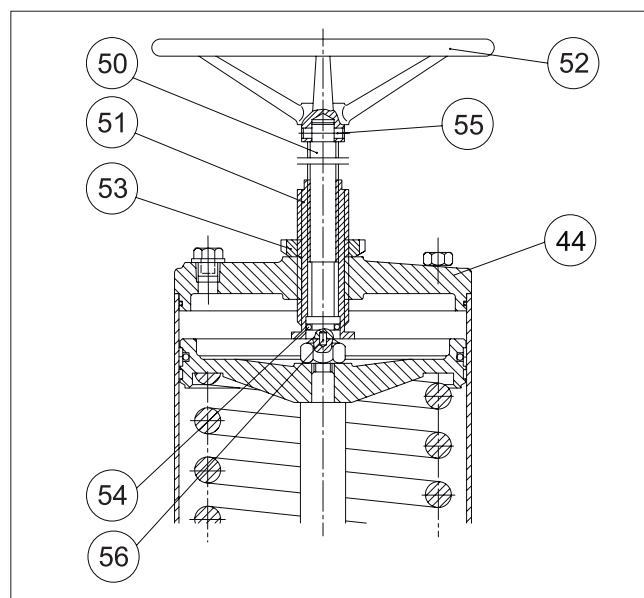

Fig. 22 B1JR actuator
The B1JR actuator is otherwise like the B1J except that it can be operated manually to bring the piston to the lower position against the spring in case there is no air supply. The B1J actuator can be changed into a B1JR by replacing the cylinder end (44) accordingly and adding parts (50 to 56), see Fig. 22
There is some air bleed trough the spindle thread when the spindle (50) with the O-ring (54) is positioned inside the cylinder. I.e. when the valve has been manually operated to open position during compressed air loss and then the air pressure is restored. To stop the leakage operate the manual override to closed position. See Fig. 22
If air escapes between the spindle (50) and spindle nut (51), check the O-ring (54) and replace it if necessary. Also check the condition of the cylindrical roller (56). See Fig. 22. Other maintenance as described for the B1J actuator in Section 4.2.
Parts list for Fig. 22: